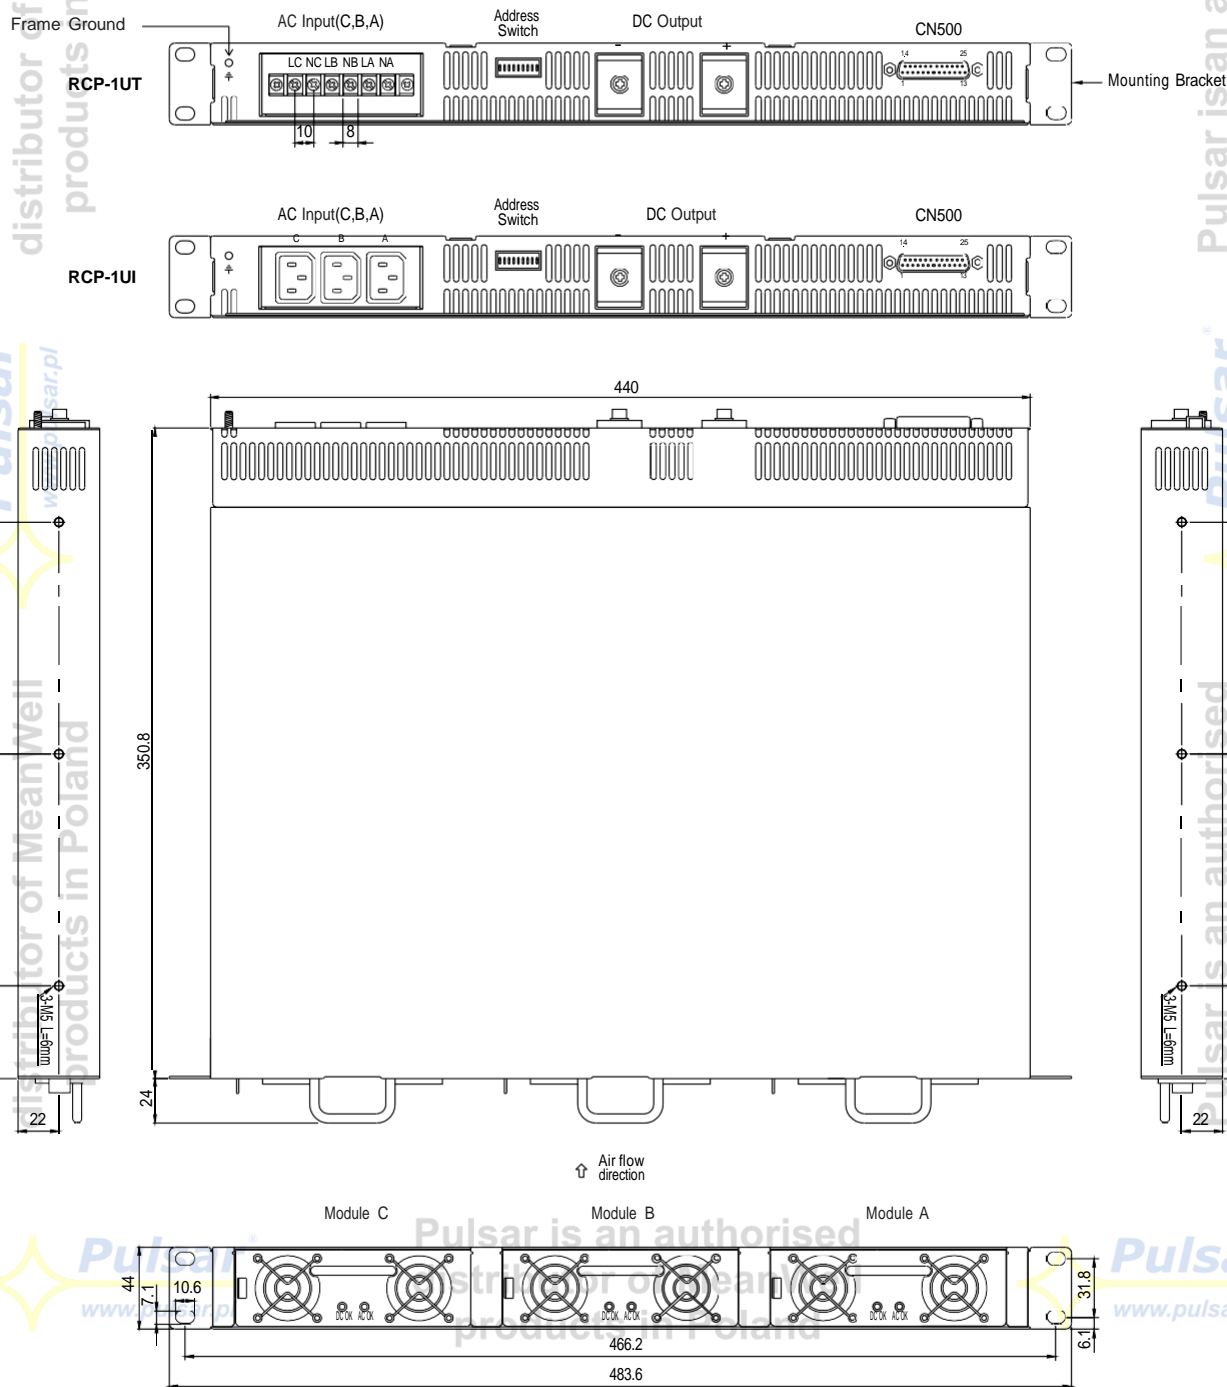

Figure 4-1: System assembly diagram of RCP series
- ◎Insert 1~3 pieces of RCP-1000 (with the same output voltage and current) into the RCP-1U□ (refer to Figure 4-1).
- ◎Definition of module position: A is on the right, B is in the middle, and C is on the left (refer to Figure 4-1).